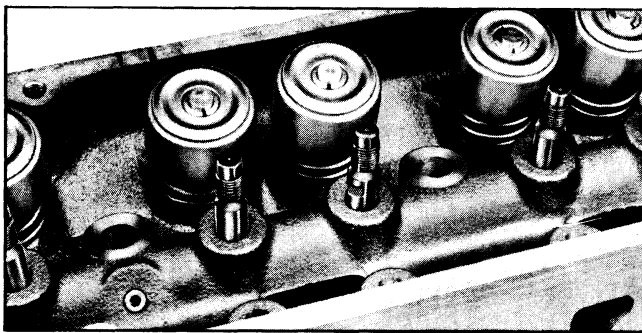

Fig. 6-32 Slots Filed in Rocker Arm Stud
2. With rocker arm removed, file two slots $\frac{3}{32}$ " to $\frac{1}{8}$ " deep on opposite sides of rocker arm stud (Fig. 6-32). Top of slots should be $\frac{1}{4}$ " to $\frac{3}{8}$ " below thread travel.
7. Remove plugs (Fig. 6-32) from ends of cylin-